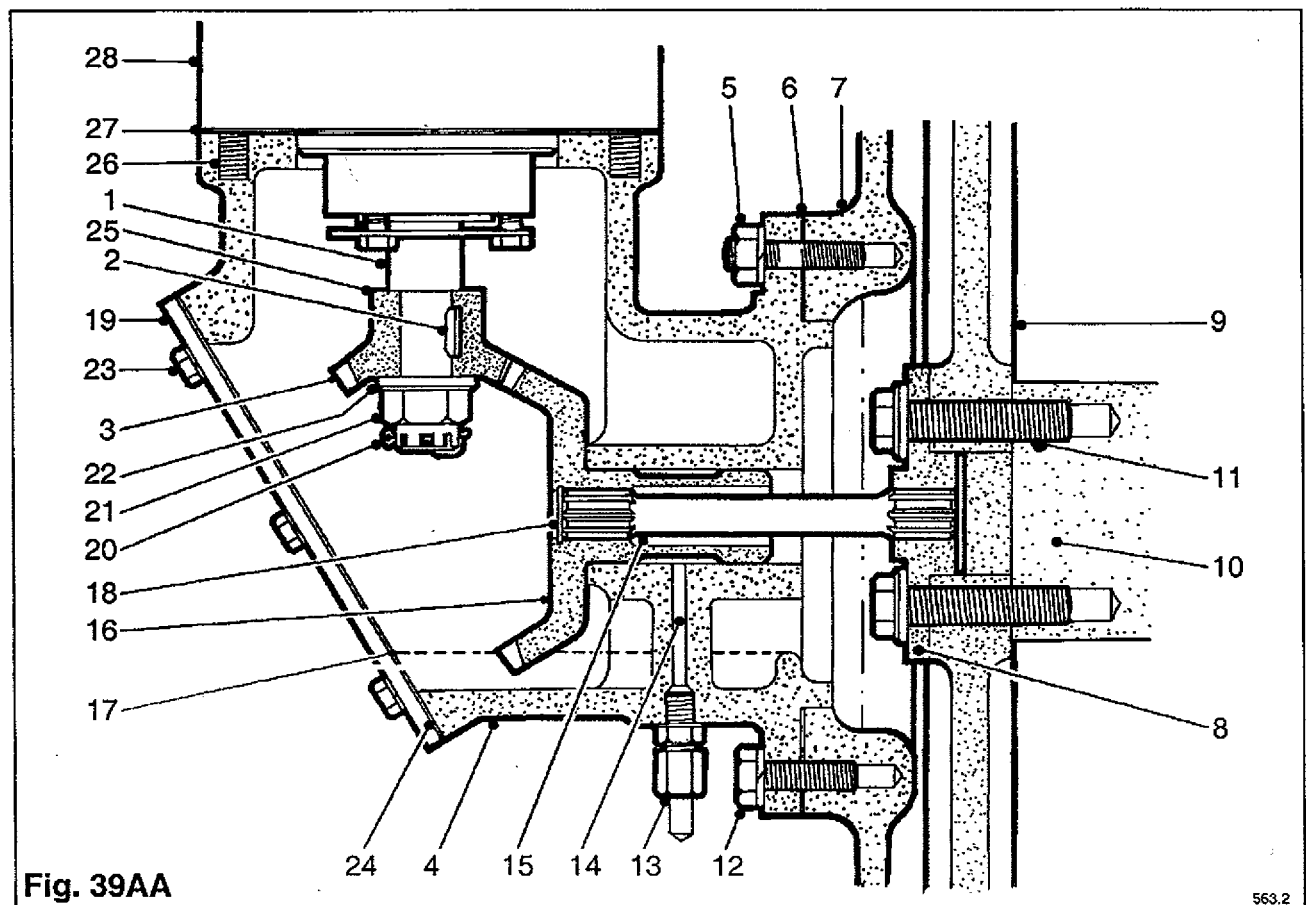
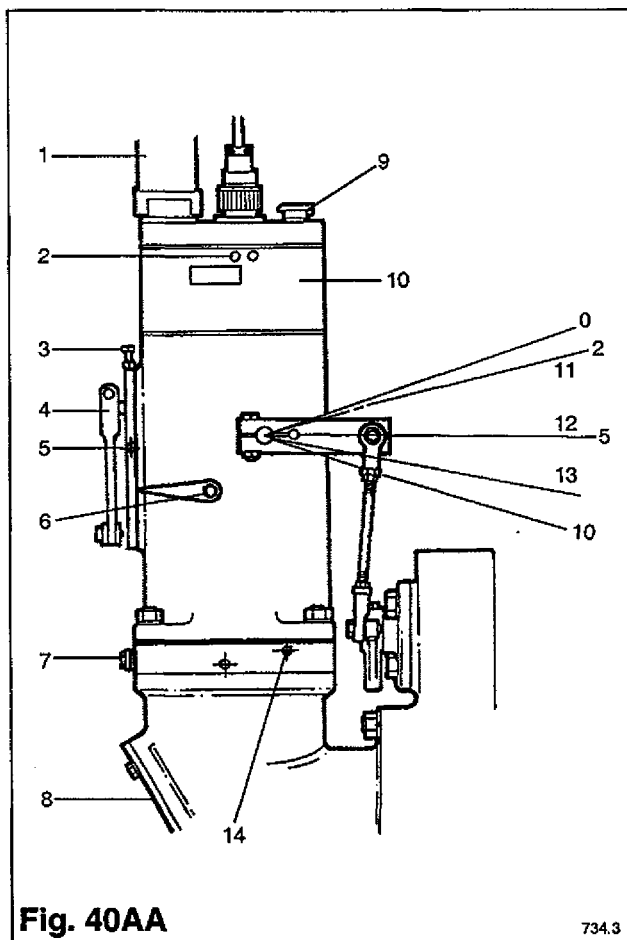

Fig. 39AA
Fig. 40AA
GENERAL DESCRIPTION (SEE FIG. 39AA)
Key (Fig. 39AA)
The governors are fitted with their own shut-down solenoids, which are energised to run, and operated from the 24 Volt engine starting system. See Fig. 40AA.
If a new or reconditioned governor is being fitted with no marking on the output shafts, the levers should be positioned as shown in **Fig. 40AA**. Make sure that the governor rotates freely before fitting the bevel gear and $\frac{5}{8}$ " UNF castle nut and split pin. (See **Fig. 39AA Section AA45**). Set the compensation adjustment to the same setting as that on the displaced governor.
- 1 Remove the $\frac{1}{8}$ " NPT socket pipe plug from the base on the left side of the governor and attach a 0-200 lb/in² pressure gauge. See Fig. 40AA.
(Fig. 40AA)